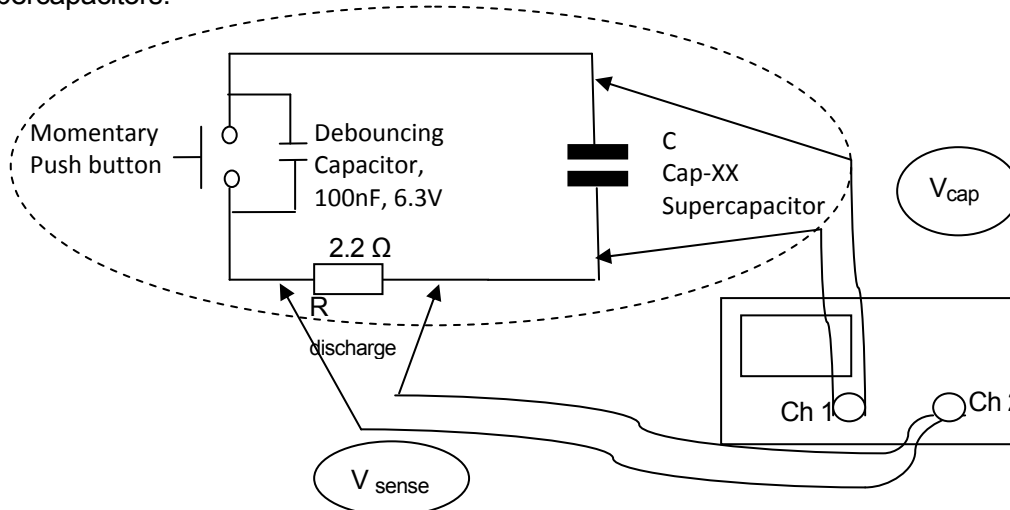
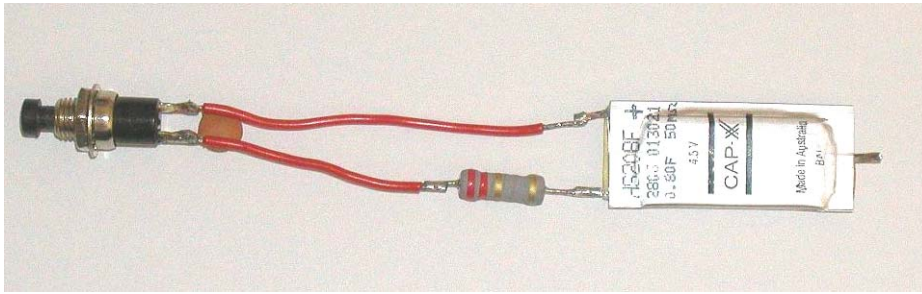

Fig 1: Measurement Setup for C & ESR
Fig 2: Picture of Supercapacitor Measurement Setup
A picture of the items circled in Fig 1 is above is shown below in Fig 2. This illustrates how simple the setup is.
1. Assemble the circuit as shown in figure 1.
- Assemble the circuit as shown in figure 1.